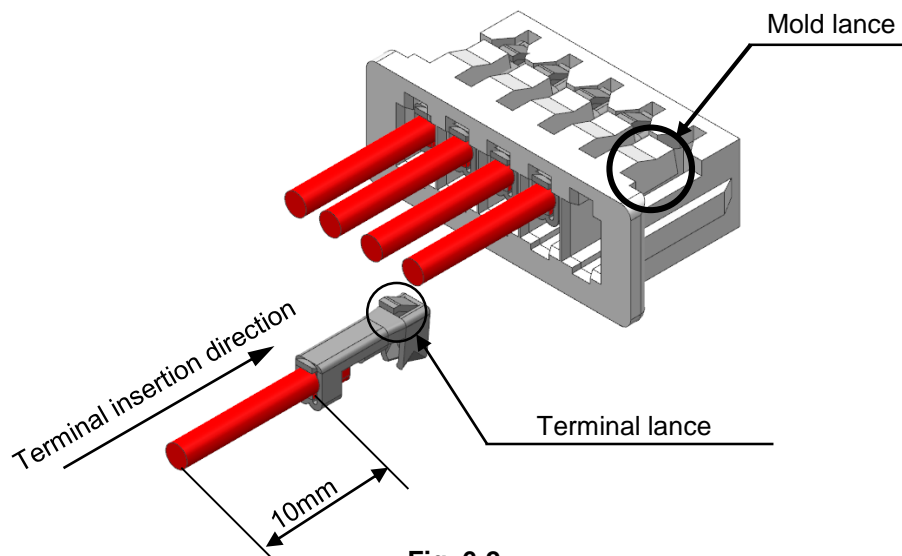

Fig. 6-2
3. Hold wire and have terminal lance part toward receptacle housing, then insert terminal slowly and straightly till the tip of terminal touches housing (with force of around 2~4N). **(Fig.6-2)**